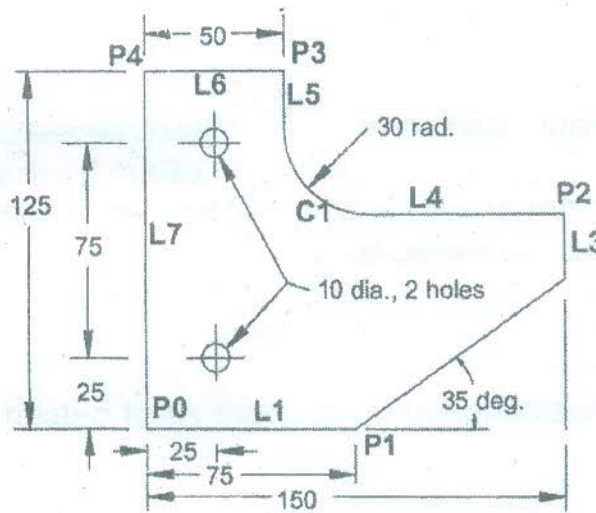

Fig. 2
- b) Write the complete APT part program to perform the profile milling operation for the part drawing in Figure 2. Tooling = 20 mm diameter end mill with two teeth, cutting speed = 125 mm/min, and feed = 0.10 mm/tooth. The part is 10 mm thick. Use the lower left corner of the part as the origin in the x-y axis system. The two holes in the part have already been drilled and will be used for clamping the part during milling. Post processor call statement is MACHIN/MILL, 01. 12